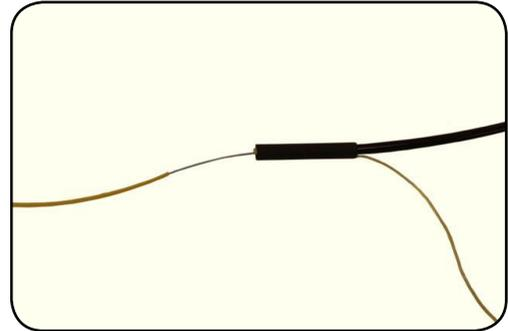

Figure 8
**Step 8:** Slide the 900um tubing over the 250um fiber inserting the 900um tube into the FieldShield 3mm cable (**Figure 8**).